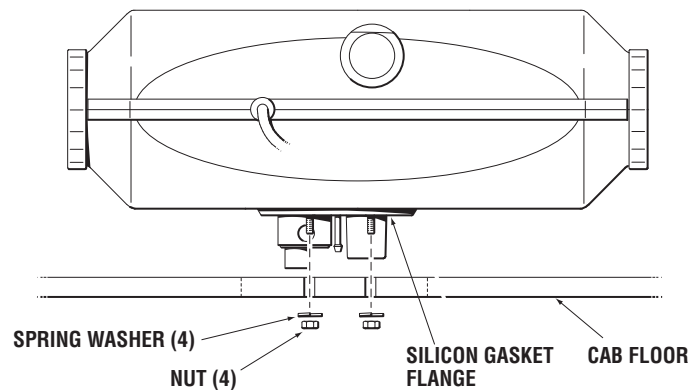

Figure 6. Heater Mounted Directly to Cab Floor.
5. Install the heater and secure with the supplied hardware (refer to figure 6).